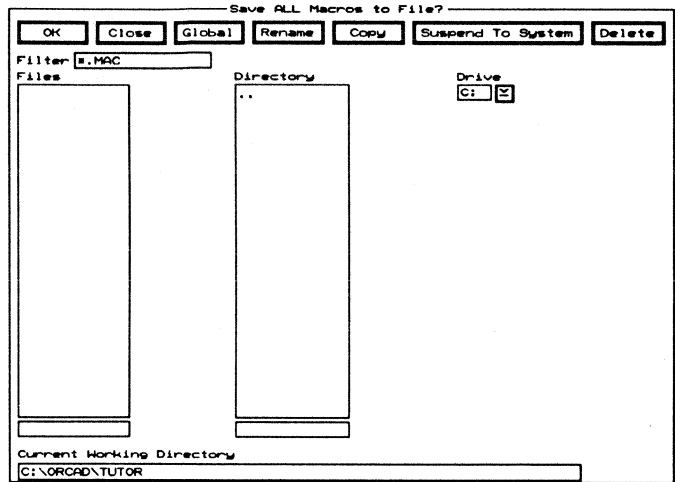

Figure 4-19. The *Save ALL Macros to File* dialog box.
3. Select **Save**. The **Save ALL Macros to File** dialog box displays (figure 4-19).